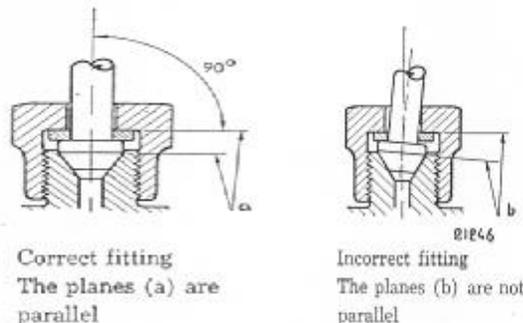

Fig. 42.
- Connect the delivery pipe. Make sure that the cone is correctly located as shown in Fig. 42. If the cone is tightened when it is crooked, there is a risk of the delivery pipe fracturing after a time due to the stresses that develop.
The cones on the ends of the pipe should be carefully fitted in the screw unions on the fuel injection pump and the injector. It should be possible to tighten the nuts most of the way by hand. Final tightening should be carried out with an open-end spanner. If the pipe does not fit precisely, stresses can occur when the pipe is tightened causing fracture after a short time of use. See Fig. 42.